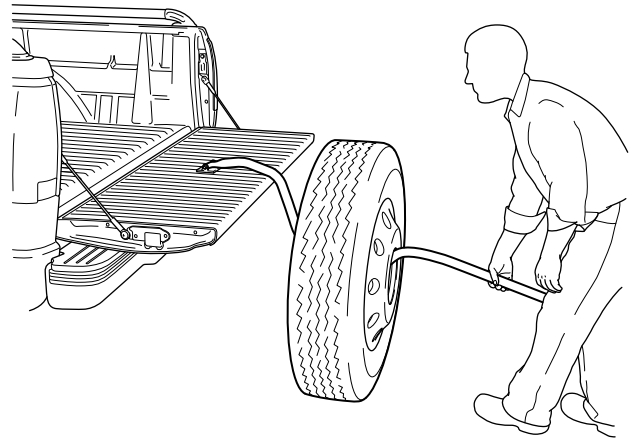

Figure 4
3. Insert the wheel tipper / loader through the center of the wheel and rest the pad on the tailgate / bed. See Figure 4.